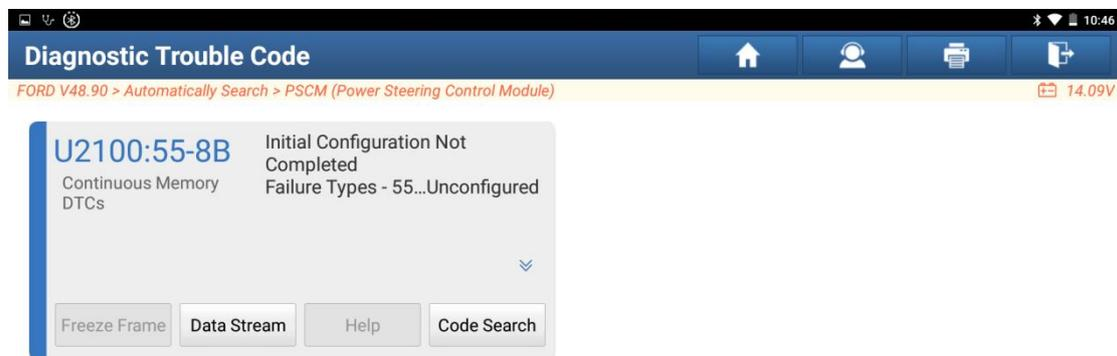

Figure C18
- After clearing the DTC, return to perform the DTC reading function to check whether the DTC U2100 exists. See Figure C18.